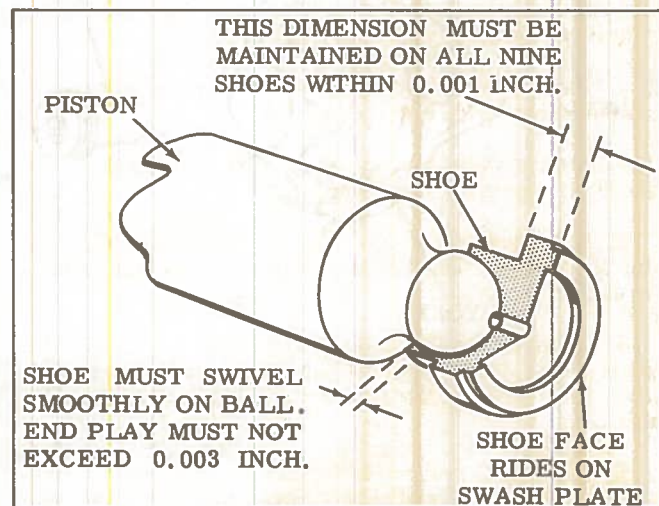

Figure 6. Piston and Shoe Assembly Tolerances
a. Inspect shoe plate (20) for wear or cracking in the area of spherical washer (19). If wear or cracks are found, replace the shoe plate and spherical washer at the same time.
b. Check spherical washer (19) for burrs and wear. Replace if defective.
c. Inspect pins (17) for equal length, wear and possible bending. Replace all pins simultaneously if one is defective.
d. Backup washer (18) does not exist in all models. Check for wear and replace if necessary.
e. Check each cylinder block (16) bore for excessive wear. Use the piston/shoe subassemblies (21) for this purpose. The piston should be a very close fit and slide easily in and out of the bore. No bind can be tolerated. If binding occurs, clean the cylinder block and piston, lubricate with clean hydraulic fluid and try again. Even minor contamination of the fluid can cause the piston to freeze up in the cylinder block bore.
f. Inspect each piston and shoe subassembly (21) for a maximum end play of 0.003 inch between the piston and shoe. The face thickness dimension, as shown in Figure 6, of each shoe must be within 0.001 inch of each other. A variation greater than 0.001 inch between all nine shoes indicates excessive wear. If one shoe needs replacement, replace all piston/shoe subassemblies. Replacement as a matter of procedure is recommended to obtain maximum overhaul life of the unit.
g. Inspect retaining ring (12), lift limiter washer (13), spring (14) and thrust washer (15) within cylinder block (16) for wear. Replace if necessary.
4. Inspect the face of swash plate (22) for wear, scratches and possible fracture. If the swash plate needs replacement, make sure the new swash plate rests flat against the face of yoke subassembly (27).